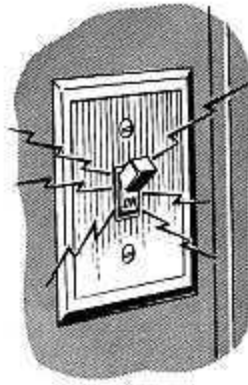

Figure 3
9. Switches not working properly (sparks fly as switch is flipped) (Figure 3)